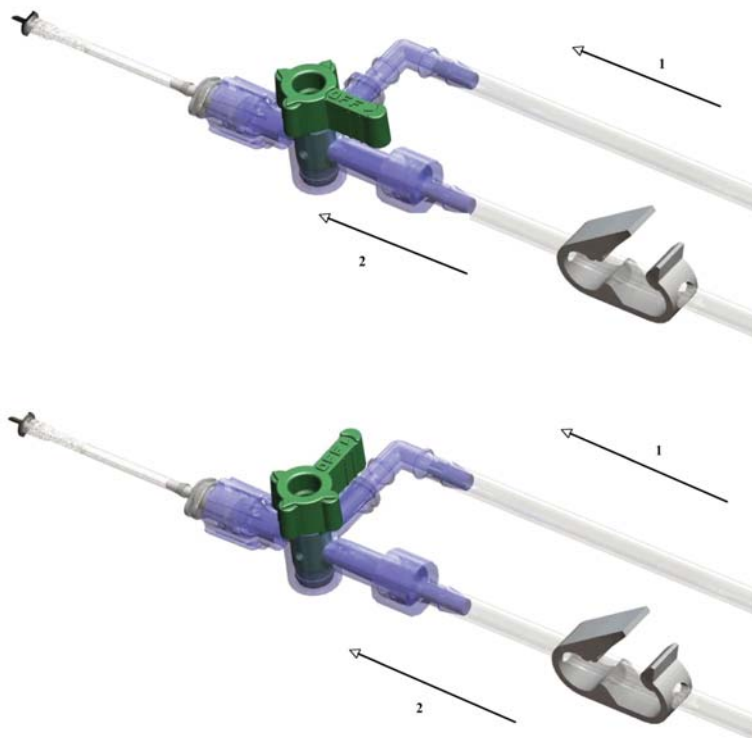

Figure 4.14. The 2-way stopcock control of Fluid/Air Exchange.
4. Turn the valve of the stopcock to stop the flow of irrigating solution and start the flow of air as shown in Figure 4.14 (top). (Scrub nurse)